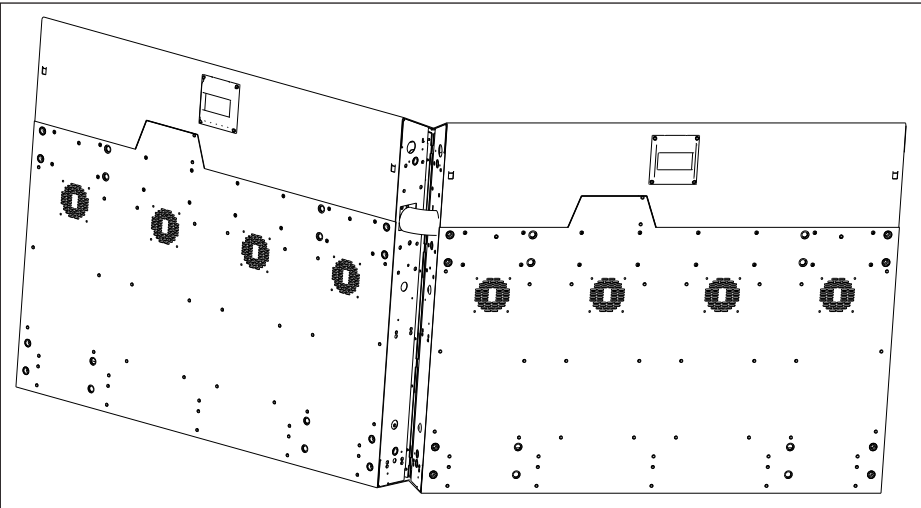
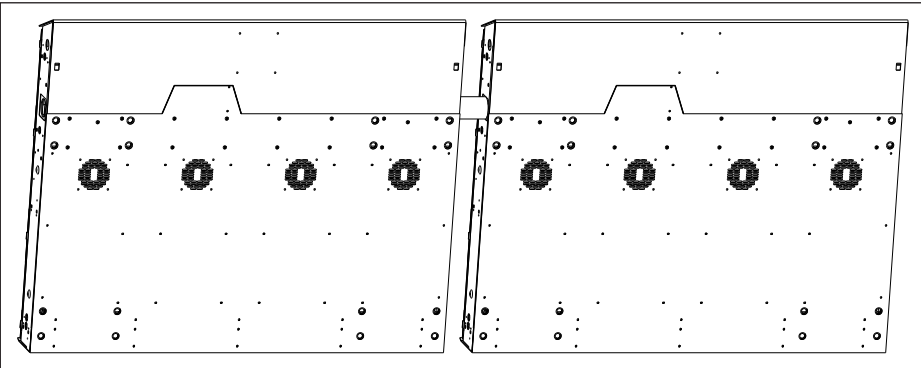

Figure 15: Flexible Tube for Corner
Figure 16: Flexible Tube for Gap
- 2. Use the tube to cover any exposed cabling between corners or gaps. Refer to the contract-specific Shop Drawing for corner or gap locations, **Figure 15**, and **Figure 16**.